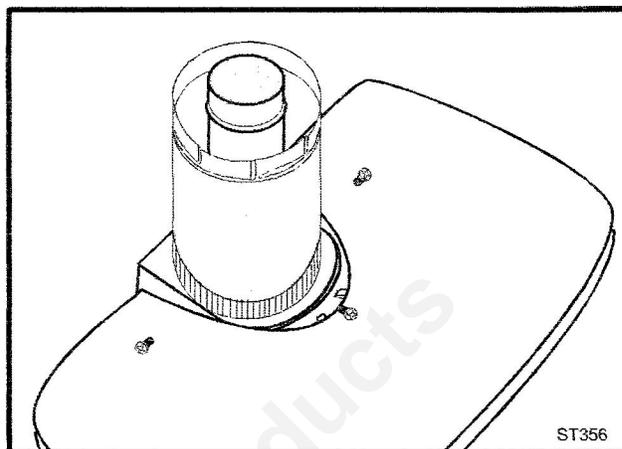

Fig. 28 Simpson Dura-Vent - install outer adapter pipe.
3. **Install the Outer Adapter Pipe.** Apply a 1/4" bead of cement around the outside surface, about one inch from the crimped end. (Fig. 28) Orient the vertical seam to the rear, and insert the crimped end of the outer pipe into the flue collar. Fasten with three sheet metal screws provided.